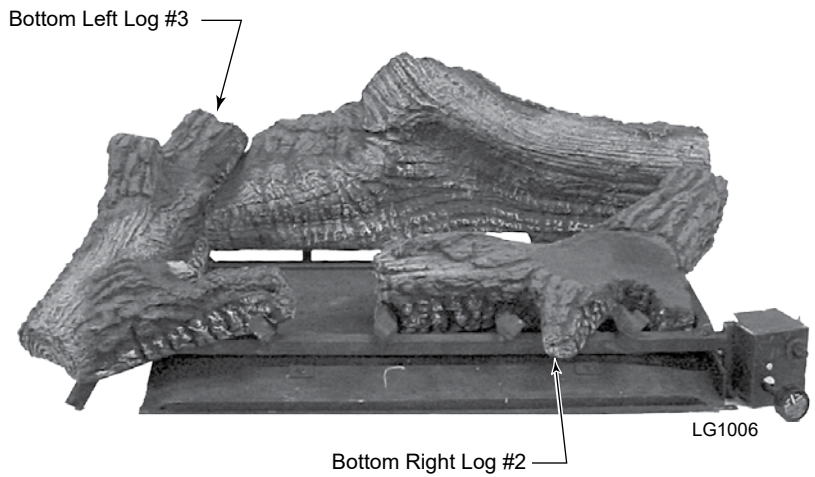

**Figure 35**
1. Place back log (#1) on back of base aligning two (2) pins on base with holes in bottom of log. *Figures 35 and 36*